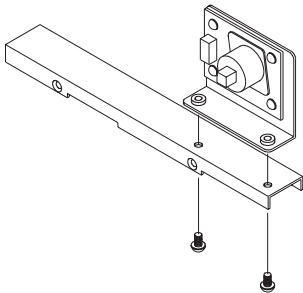

Figure 26: Installing the Airflow bracket on the wire protection bracket
3. Install airflow sensor bracket into the rack above the wire protection bracket (directly under fan) as shown in Figure 26.